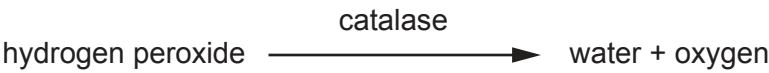

Fig. 1.1
- 1 Plant cells produce the enzyme catalase that catalyses the hydrolysis (breakdown) of hydrogen peroxide into water and oxygen, as shown in Fig. 1.1.